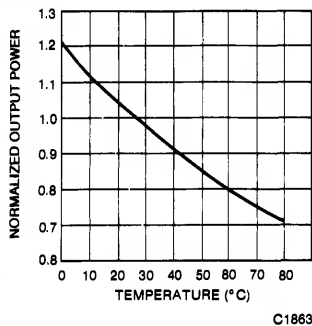

Fig. 2. Normalized Output Power vs. Temperature (Note 3)
3. The curves in Fig. 2 are normalized to the power output at 25°C to indicate the relative efficiency over the operating temperature range.